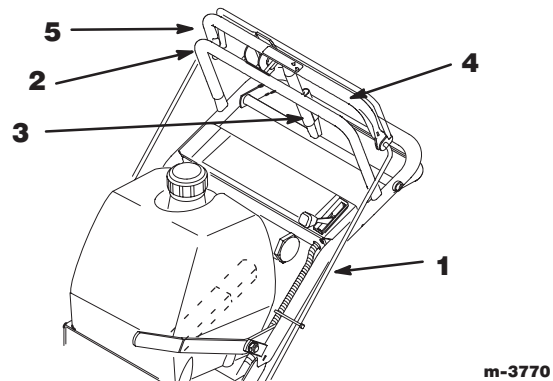

Figure 7
3. Check the gap between upper control bar and fixed bar with wheel drive fully engaged. Gap should be approximately 1 to 1-1/4 in. (25–32 mm) (Fig. 7).